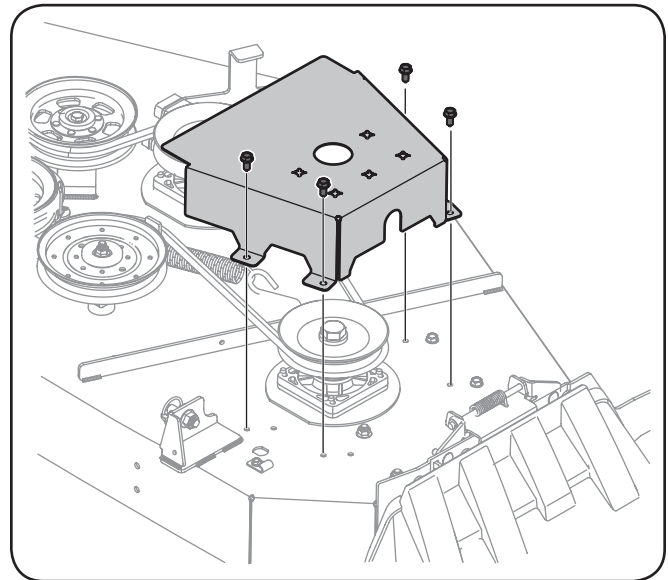

Figure 7-7
2. Remove the hex washer screws securing the belt covers to the deck. See Figure 7-7.
3. Remove the two idler pulleys by removing the hex screws and flange lock nuts that secure them to the deck and the idler arm. See Figure 7-7. Do not lose any of the hardware when removing the hex screw and flange lock nut.
5. Install the new belt around the spindle pulleys as shown and reinstall the belt covers. See Figure 7-7.